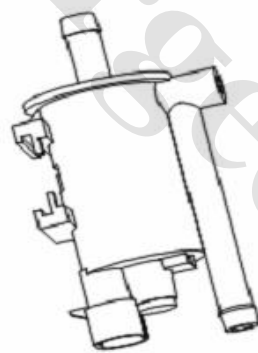

Fig. 1-19
**(5) Trouble diagnosis:** The ECU will not carry out trouble diagnosis for the ignition coil. Therefore, when trouble occurs on the ignition coil, no diagnostic trouble code will be produced. Only the resistance of the ignition coil can be checked for the normal operation of the coil. Under normal situation, the heat emitted by the coil under operation will be high, and the over-high temperature of the coil will increase its resistance value, which will cause such troubles as unstable running, automatic misfiring for the engine.
**11. Canister control valve (Fig. 1-19)**